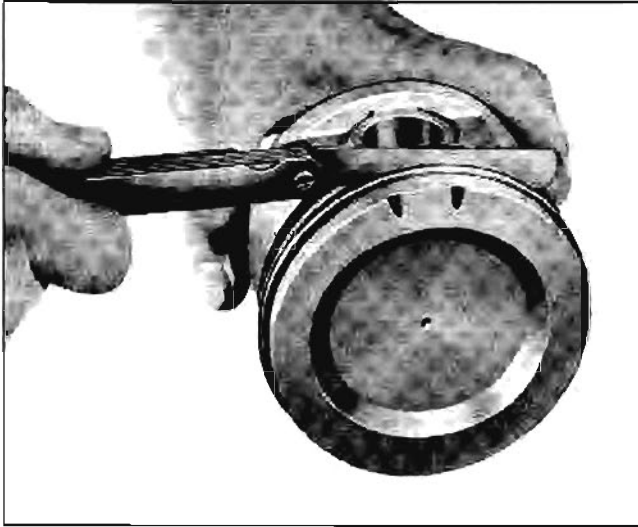

Fig. 6-54 Measuring Side Clearance of Ring in Groove
5. Measure side clearance of rings in ring groove (Fig. 6-54) as each ring is installed. Clearance with new pistons and rings should be as follows: